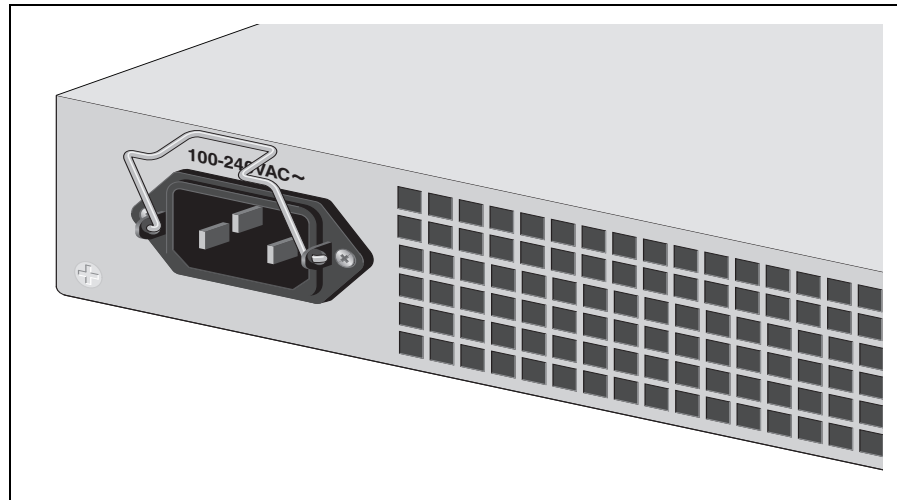

Figure 45. Power Cord Retaining Clip in the Up Position
1. Position the power cord retaining clip in the up position, as shown in Figure 45.